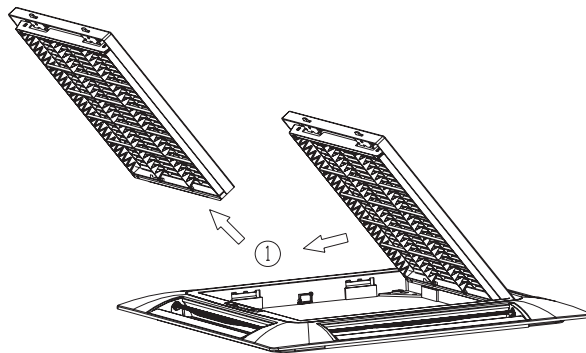

Fig.23
2. With the grille fully opened, remove the grille along the direction shown in Fig.23.